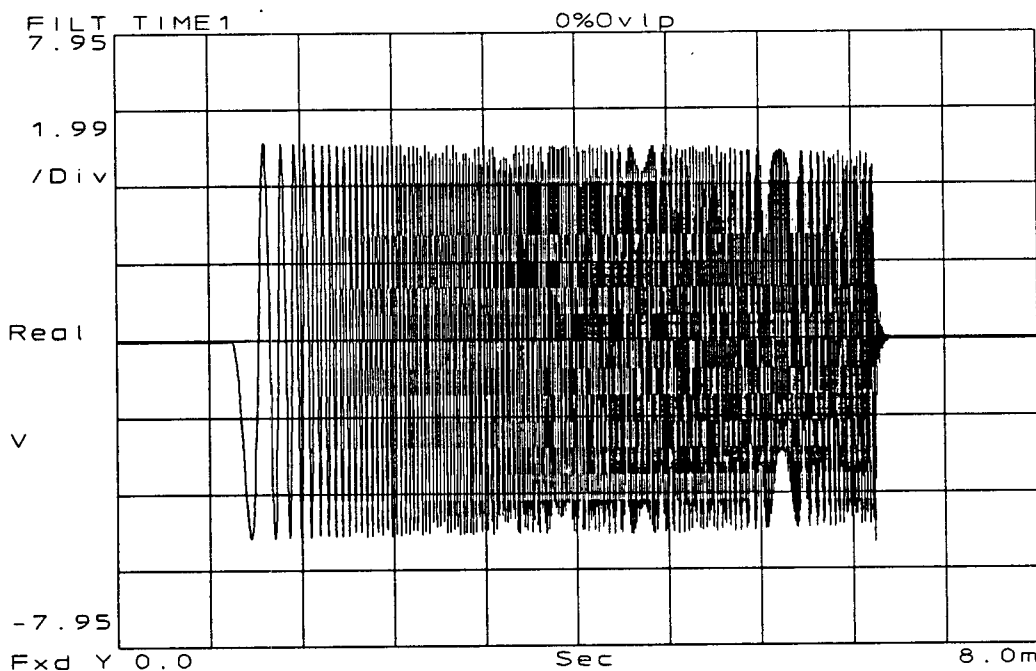

Figure 7-11. Burst Chirp
5. Refer to figure 7-11 to verify a normal burst chirp.